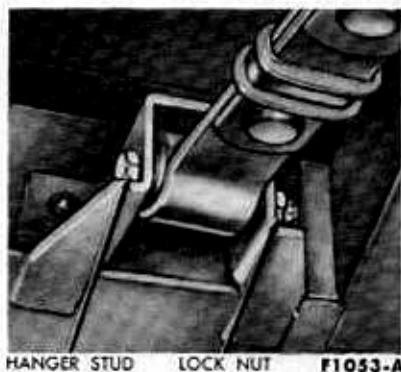

FIG. 15—Rear Spring Front Hanger
5. Remove the front hanger stud from the forward end of the spring (Fig. 15).